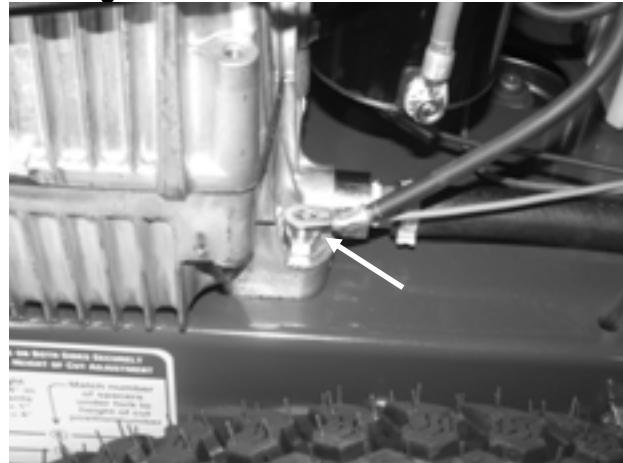

Figure 27
2. Using a 1/2" wrench, remove the keps nut and remove the black ground cable and insulate end of cable **Figure 27**.